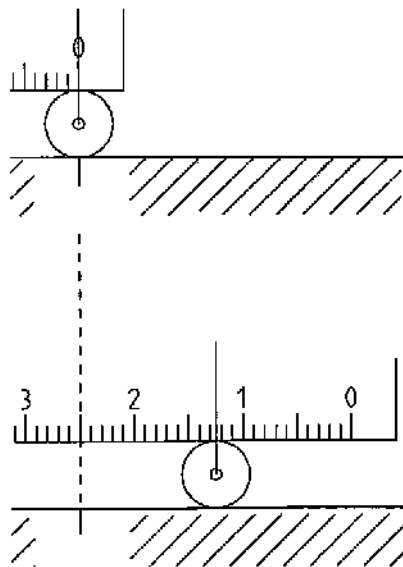

Figure 4: Rolling movement
1. A correlation between the deflection of the pointer on the rolling shaft s and the linear expansion Δl needs to be drawn. Figure 4 and 5 help.
- In order to get used to the functionality, students should use a ruler (representative of the tube) to turn the rolling shaft on an tables edge by 360 °. The result is explained in figure 4: